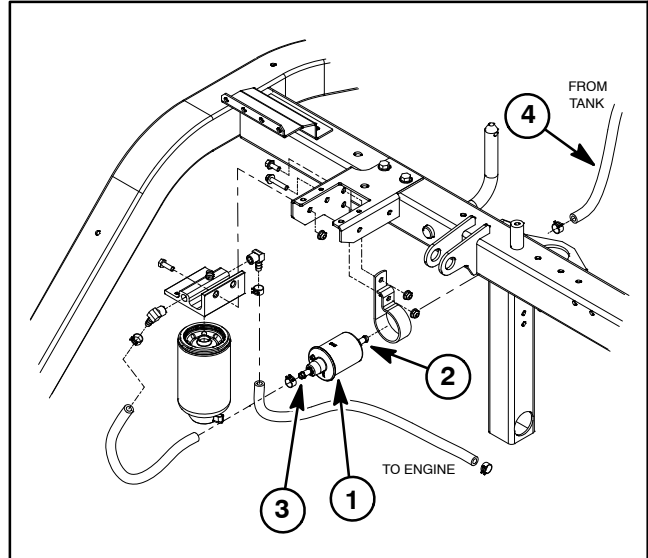

Figure 35
The fuel pump on Greensmaster 3250-D machines is secured to the radiator assembly with an r-clamp (Fig. 35). The fuel pump is energized when the ignition switch is in either the RUN or START position.
2. Disconnect machine fuel supply hose from the fuel pump outlet (Fig. 35).